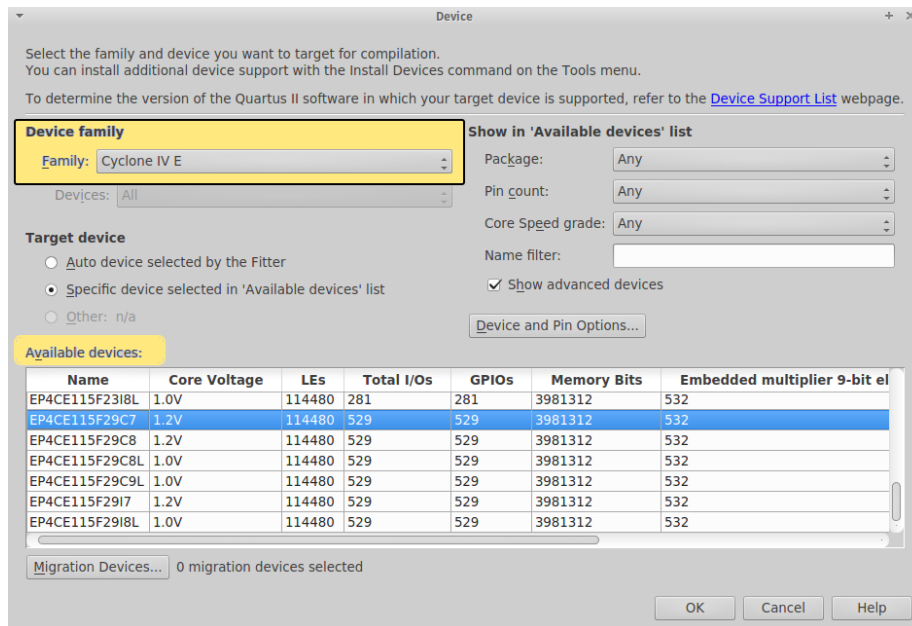

Figure 2: Selecting the correct device platform for your project
- Select **Cyclone IV E** as your device family. See figure 2.
- Select **EP4CE115F29C7** as your device, see figure 2. and click **OK**